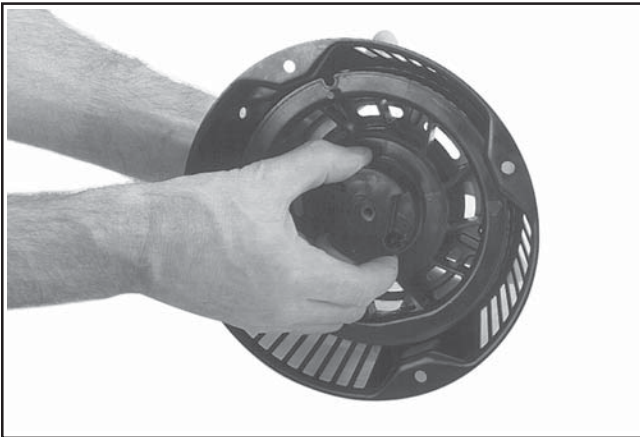

Figure 7-10. Assembling Starter Pulley to Housing.
- Carefully install pulley into recoil housing, engaging the spring hook with starter housing tab. See Figure 7-10.